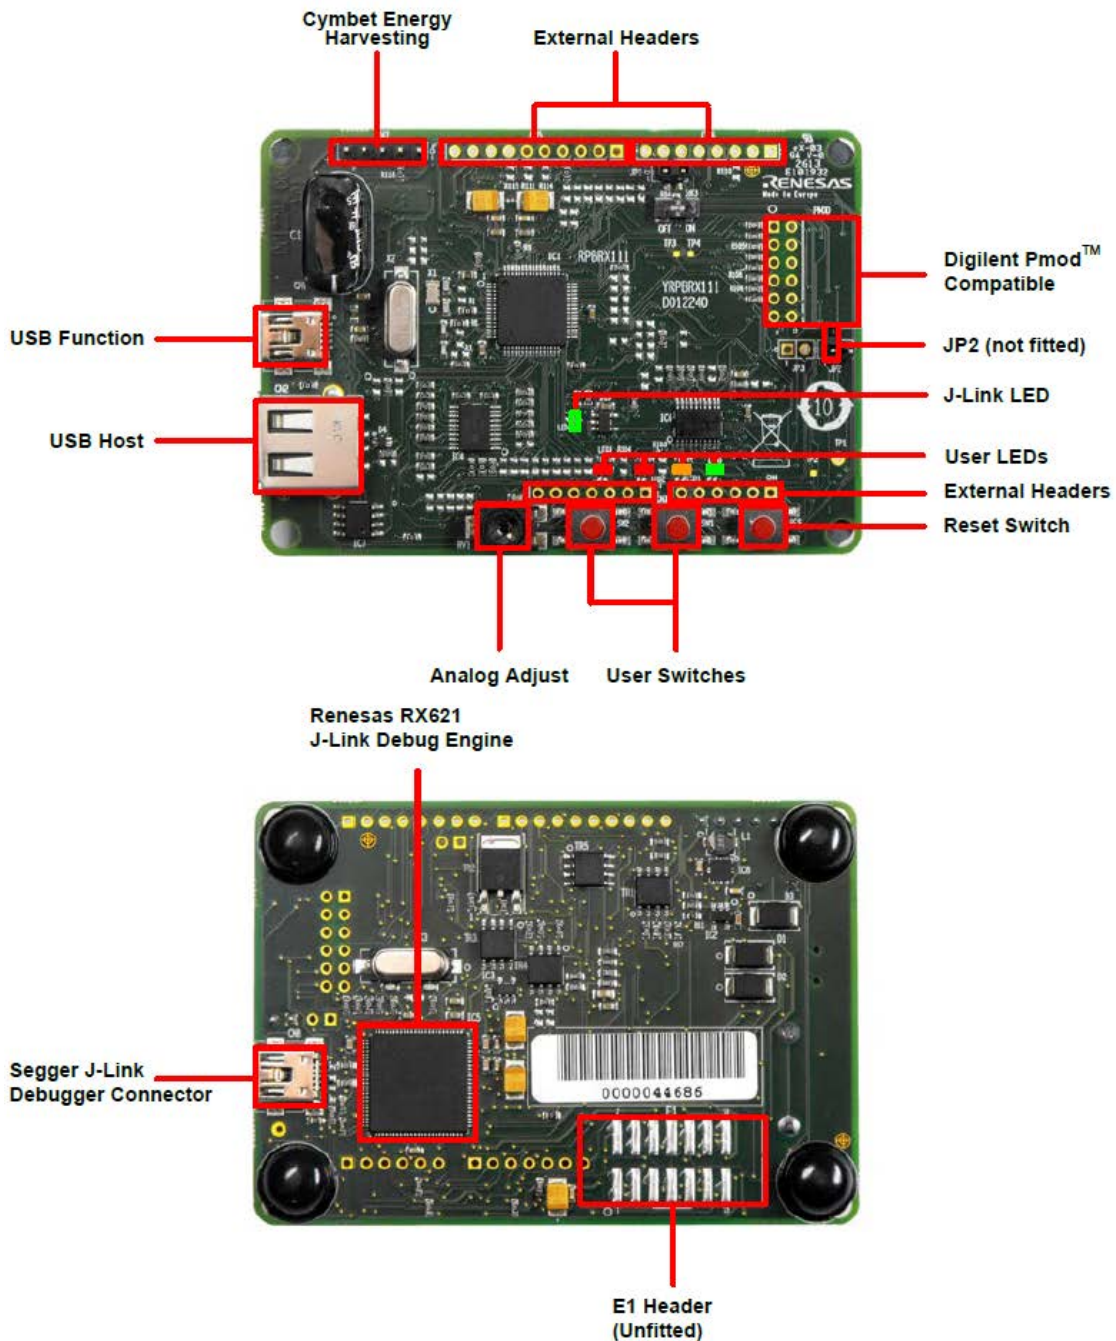

Figure 2 - RPBRX111 board overview
- Note:** When you have some connection problems, just re-plug the board and press reset button (see Figure 2).